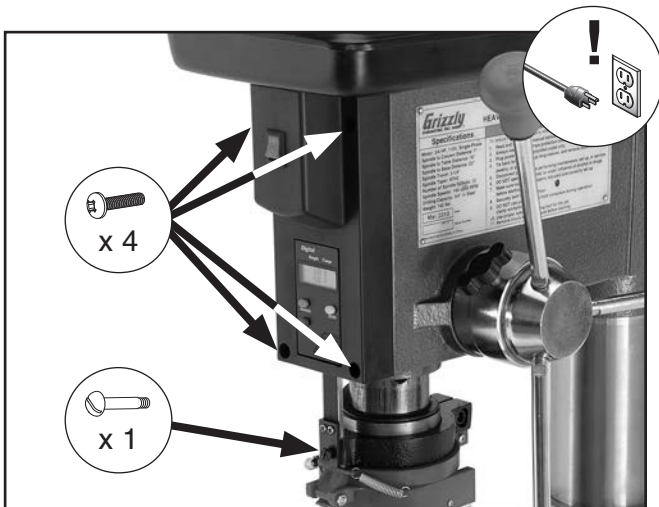

Figure 4. Location of DRO mounting screws.
2. Remove (1) shoulder screw, then remove (4) M5-.8 x 14 Phillips head screws shown in **Figure 4** and remove DRO housing.